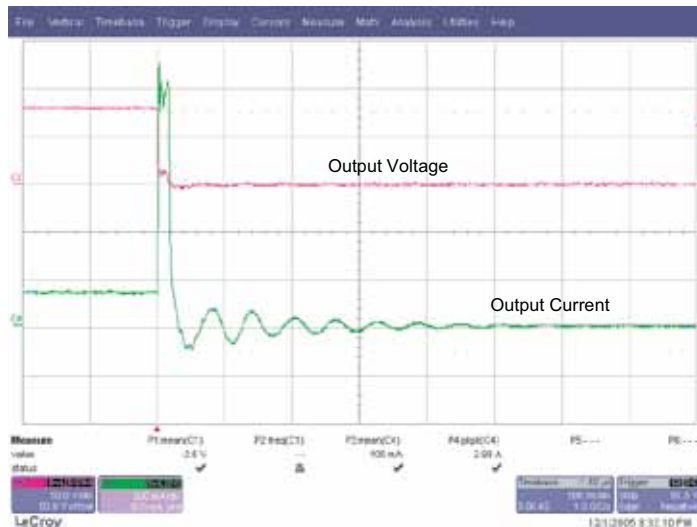

Fig. 7:Output Short Circuit Protection (500ns/div)
5. Output Short Circuit Protection: Fig. 7 shows the waveforms for output short circuit condition. The disconnect FET is turned off in less than 300ns. The rise in the output current will depend on the input voltage and the value of inductor L1. The same protection will also help in protecting the LEDs in case the output voltage increases beyond the LED string voltage.